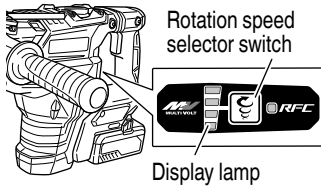

Fig. 12
4. Regulating the number of rotations and hammering (Fig. 12)